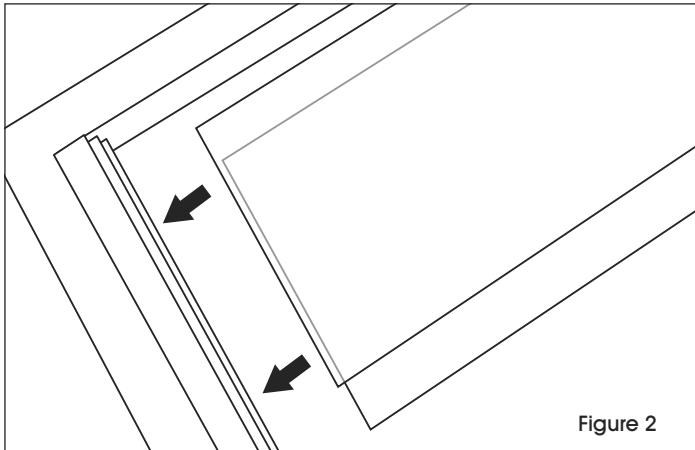

Figure 2
3. Place one end of each plastic sheet onto each aluminum track inside the message center. Slide the other track onto the other end of each plastic sheet. (See Figure 2)